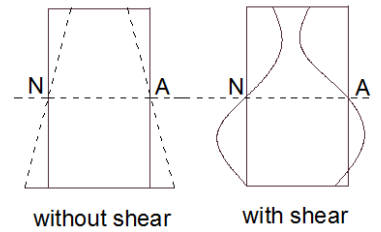

Fig.1
2. Plane transverse section remain plane and normal before and after the bending (as shown in Fig.1), hence effect of shear is ignored.